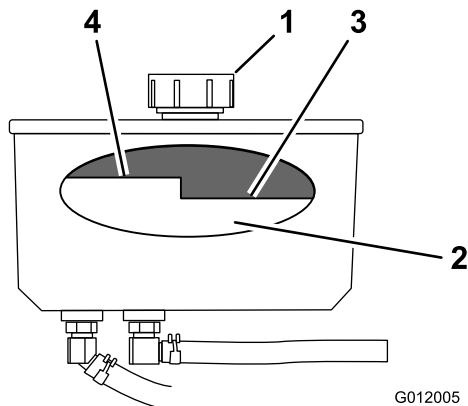

Figure 71
4. Clean the area around the cap and the filler neck of the hydraulic tank (Figure 71).
5. Remove the cap from the filler neck (Figure 71).
Note: The fluid level should be below the hot level of the baffle when the fluid is warm (Figure 71).